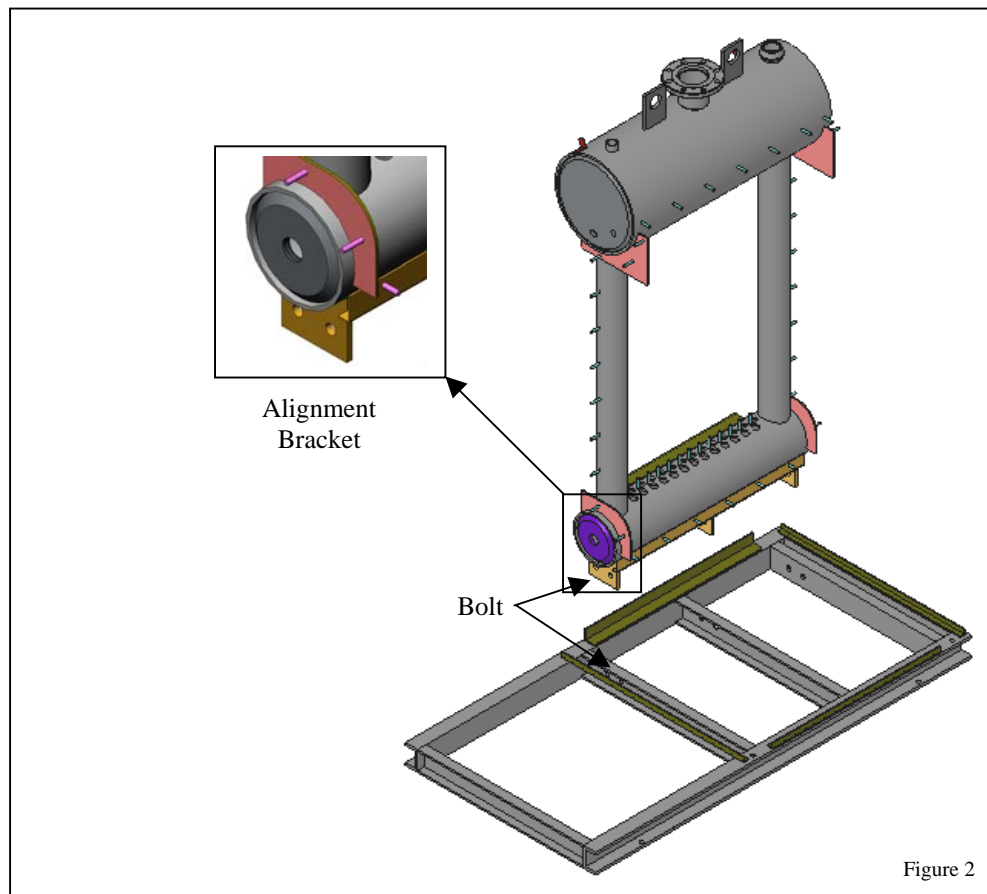

Figure 2
- 1.2 Position Pressure Vessel assembly onto the boiler base assembly. Steel brackets are welded onto Pressure Vessel to assist alignment of mating parts. When bolt alignment is complete, bolt the Pressure Vessel to base assembly. Do not tighten. See Figure 2.